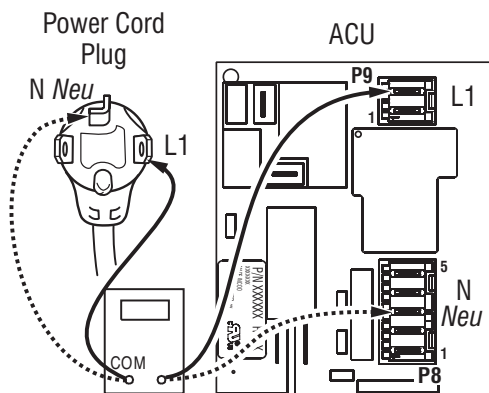

Figure 4b - Plug-to-terminal connections for electric dryer.
4. With an ohmmeter, check the continuity from L1 and N plug terminals of the power cord to the terminals for L1 and N on the ACU. See figure 4b.